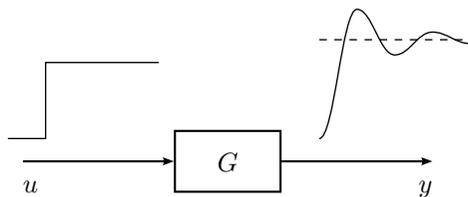

Figure 2.8a
2.8 Consider a system described by the model  $Y(s) = G(s)U(s)$  as shown in Figure 2.8a. Given  $G(s)$ , how is the step response computed? How can the step response be determined using experiments?